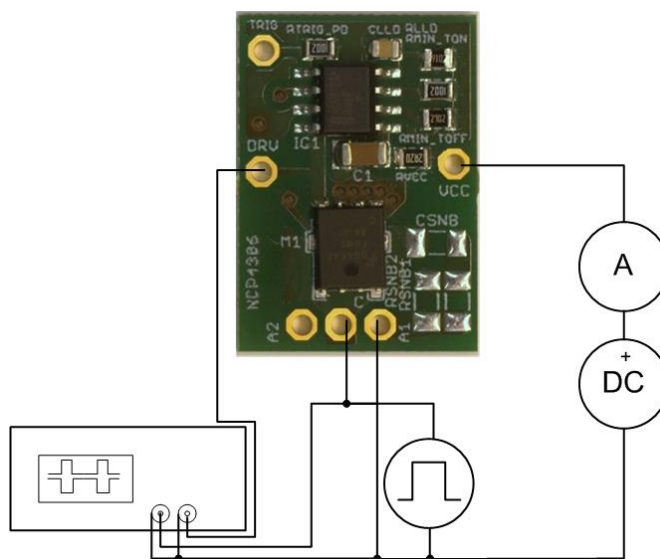

Figure 1: Test Setup
1. Connect the test setup as shown in figure 1.